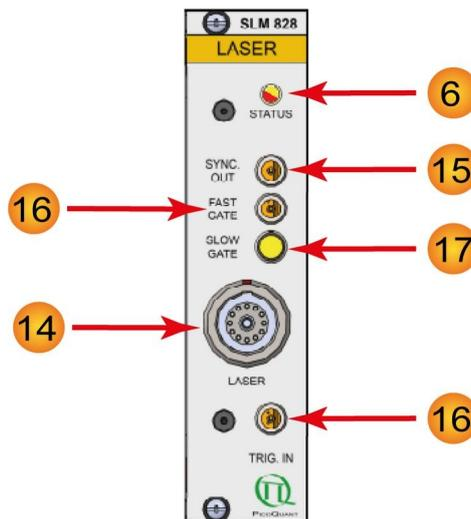

Fig. 29: SLM 828 – front panel
The synchronization output of the laser driver module (15 in Fig. 29) delivers a synchronization signal along with each laser pulse. This synchronization output is particularly helpful in independent operation. It can be connected to the detection electronics such as, e. g., a TCSPC module from PicoQuant. A suitable LEMO-SMA or LEMO-BNC adapter cable can be obtained from PicoQuant.
- Each SLM 828 can be triggered externally by a suited NIM compatible trigger signal connected to the trigger input **TRIG. IN** (16 in Fig. 29) of the SLM 828.
To use this gating mechanism, connect a low-active TTL signal to the "FAST GATE" connector (16 in Fig. 29). The input has an internal pull-up resistor to "High" level.
The slow gate input is isolated by an opto-coupler and a current must be fed into the input to activate the laser. When this gating function is not used, the yellow LEMO connector stub (included with the device) must be plugged into Slow Gate connector (17 in Fig. 29) to keep the laser always active.
Please note: The pictures in Fig 29 to 33 show an earlier version of the PDL 828 front panel. The principle is still valid for the new versions of the PDL 828 front panel.